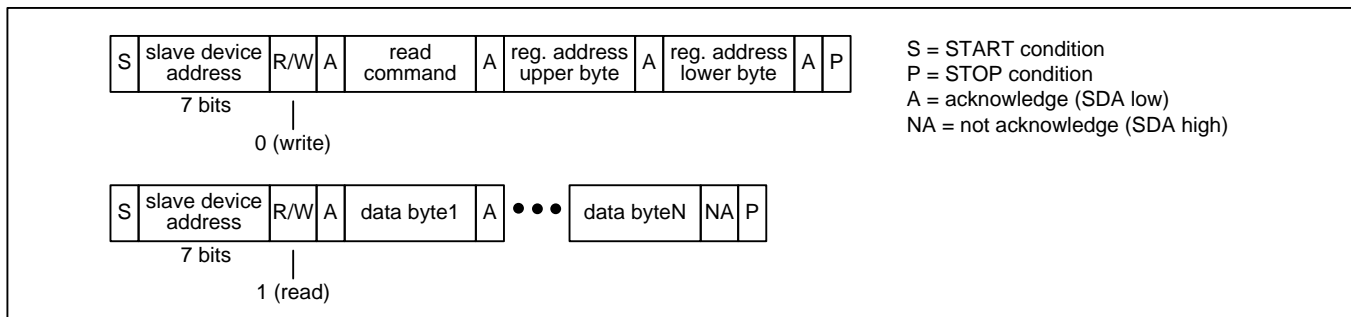
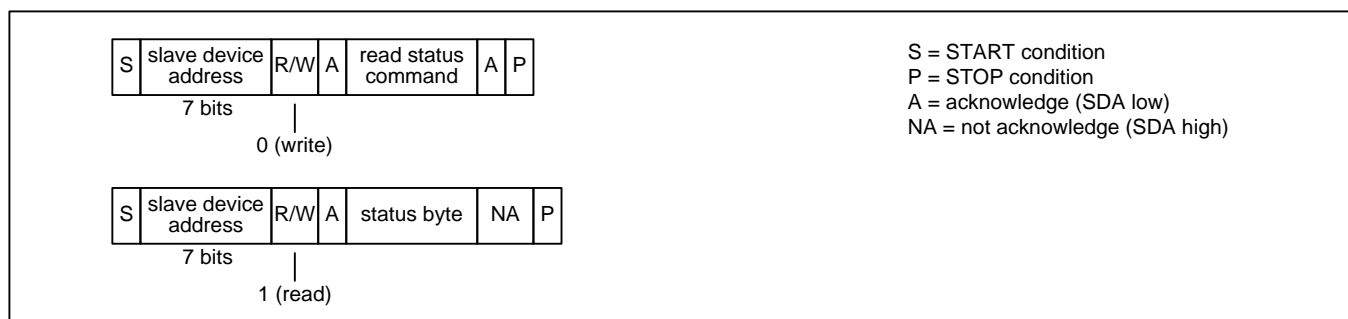

Figure 16 – I²C Read Transaction Functional Timing
Figure 19 – I²C EEPROM Read Status Transaction Functional Timing (ZL30253 Only)
Read Transactions. The device registers are accessible when **EESEL=0**. On a ZL30253 the internal EEPROM memory is accessible when **EESEL=1**. On ZL30252 **EESEL** must be set to 0. The bus master first does an I²C write to the device. In this transaction three bytes are written: the SPI Read command (see Table 4), the upper byte of the register address, and the lower byte of the register address. The bus master then does an I²C read. During each acknowledge (A) bit the device fetches data from the read address and then increments the read address. The device then transmits the data to the bus master during the next 8 SCL cycles. The bus master terminates the read with a not-acknowledge (NA) followed by a STOP condition (P). See Figure 16. Note: If the I²C write is separated in time from the I²C read by other I²C transactions then the device only outputs the data value from the first address and repeats that same data value after each acknowledge (A) generated by the bus master.
EEPROM Read Status (ZL30253 Only). The bus master first does an I²C write to transmit the SPI Read Status command (see Table 4) to the device. The bus master then does an I²C read to get the status byte. In this byte, the least significant bit is set to 1 if the transfer is still in progress and 0 if the transfer has completed. See Figure 19.
Note: In Figure 16 through Figure 19, a STOP condition (P) immediately followed by a START condition (S) can be replaced by a repeated START condition (Sr) as described in the I²C specification.